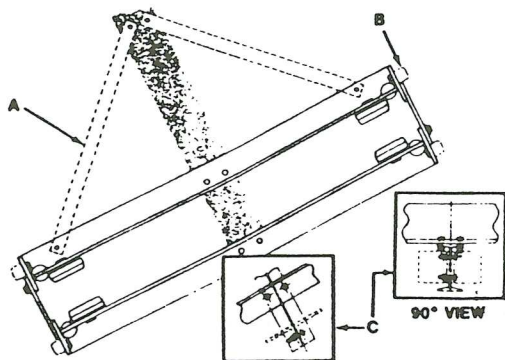

FIGURE 3
- a. On longer span cranes it may be desirable to add diagonal braces between the span beam and the crane trucks to insure against loss of truck alignment. Saginaw Brace p/n 44596 may be welded or bolted diagonally between the bottom of the truck and the top of the span beam. (See Figure 3)
When desired, rubber bumpers p/n 44601 can be mounted to each end of the truck assembly to prevent possible damage to unit or other trolley assemblies in the system. (See Figure 3)